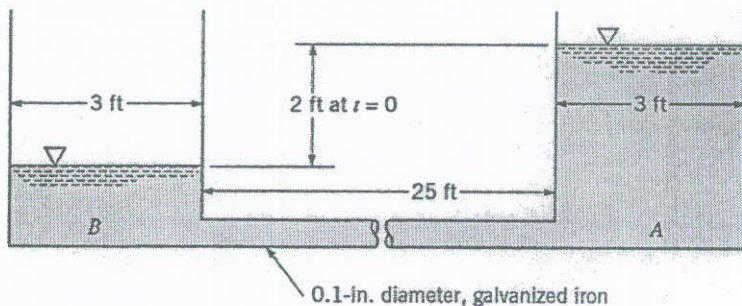

FIGURE P8.23
8.23 At time  $t = 0$  the level of water in tank A shown in Fig. P8.23 is 2 ft above that in tank B. Plot the elevation of the water in tank A as a function of time until the free surfaces in both tanks are at the same elevation. Assume quasisteady conditions—that is, the steady pipe flow equations are assumed valid at any time, even though the flowrate does change (slowly) in time. Neglect minor losses. *Note:* Verify and use the fact that the flow is laminar.